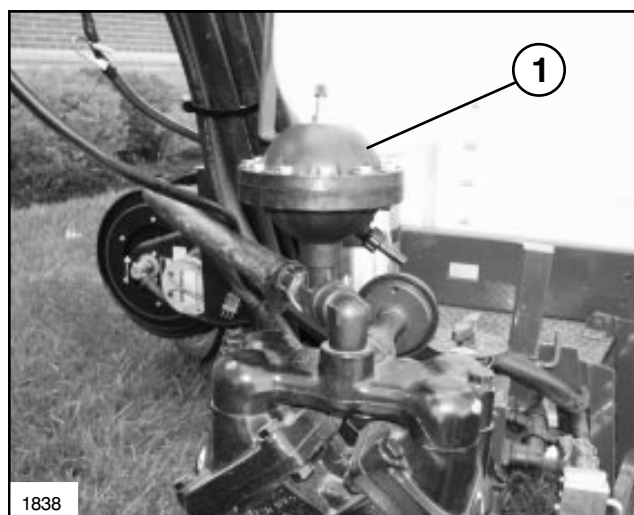

FIG. 4
12. PRESSURE DAMPENER: Smooths pressure pulsation in spray system. (See FIG. 4)